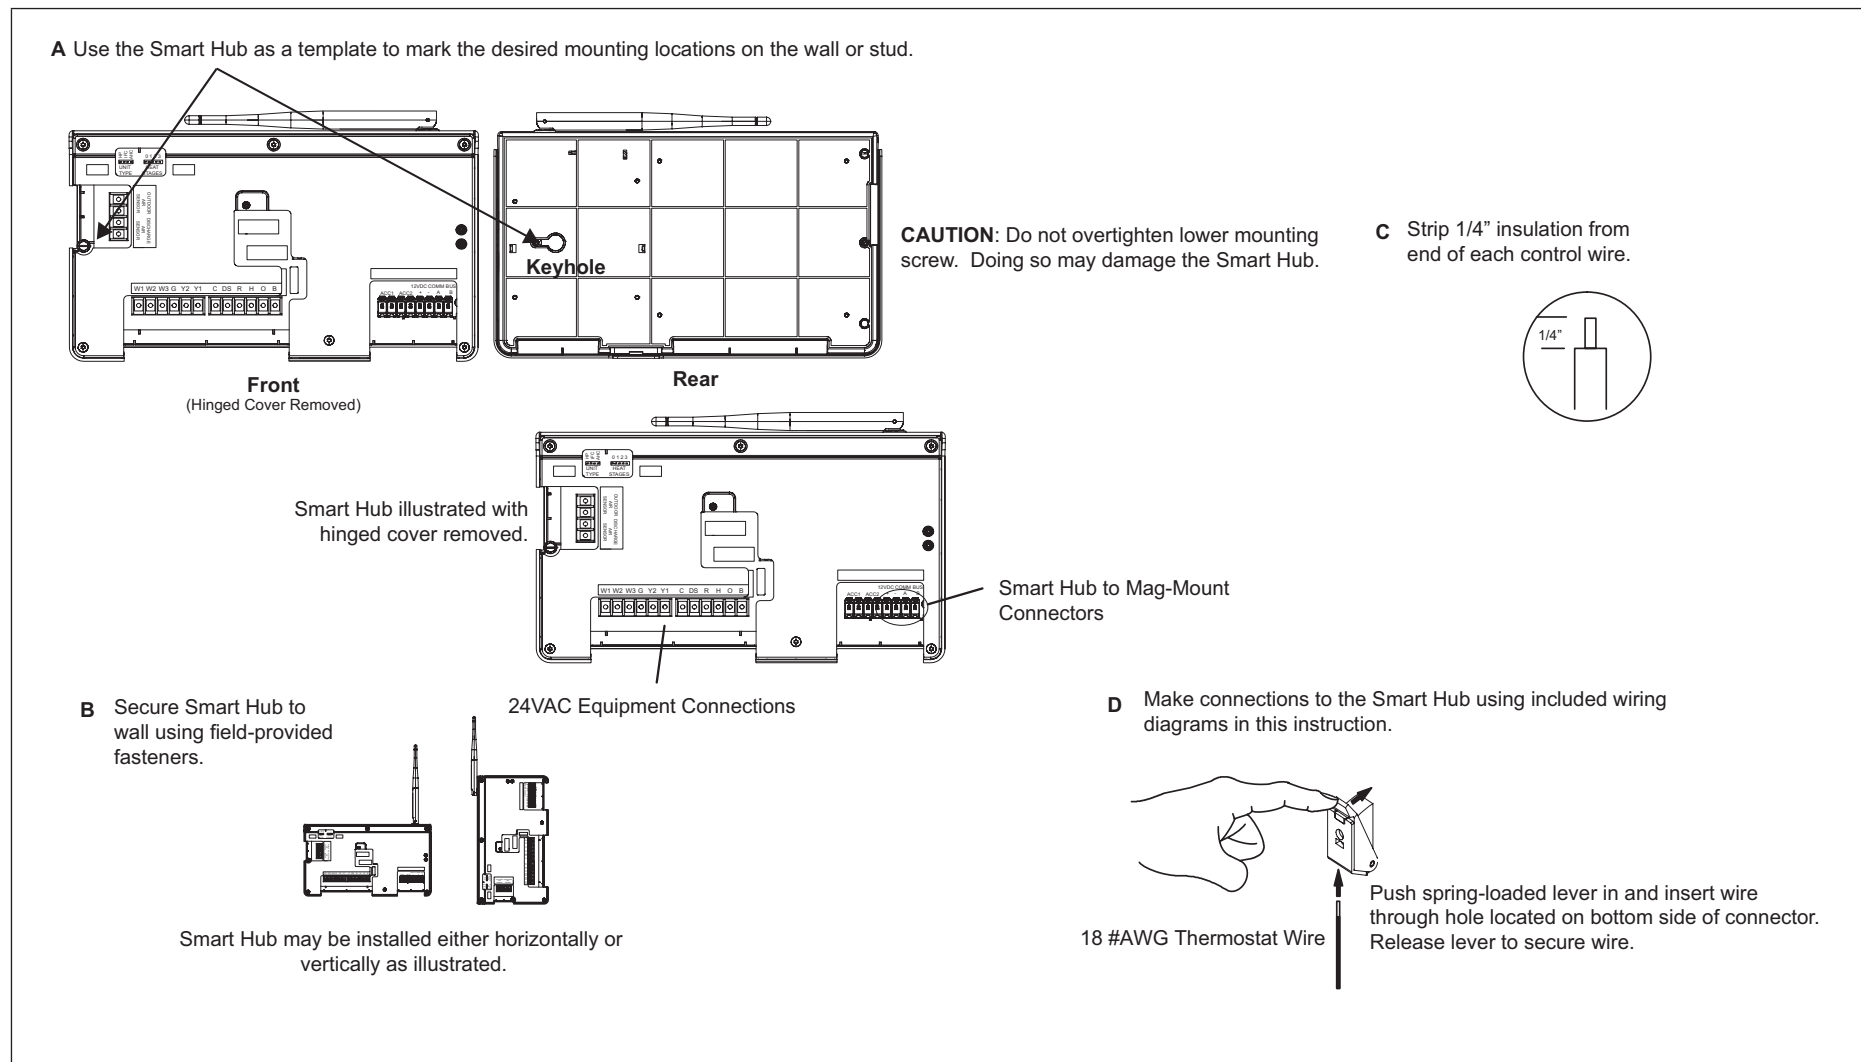

Figure 1. Smart Hub Installation
2. Use the following procedure outlined in “Figure 1. Smart Hub Installation” to install the Smart Hub.